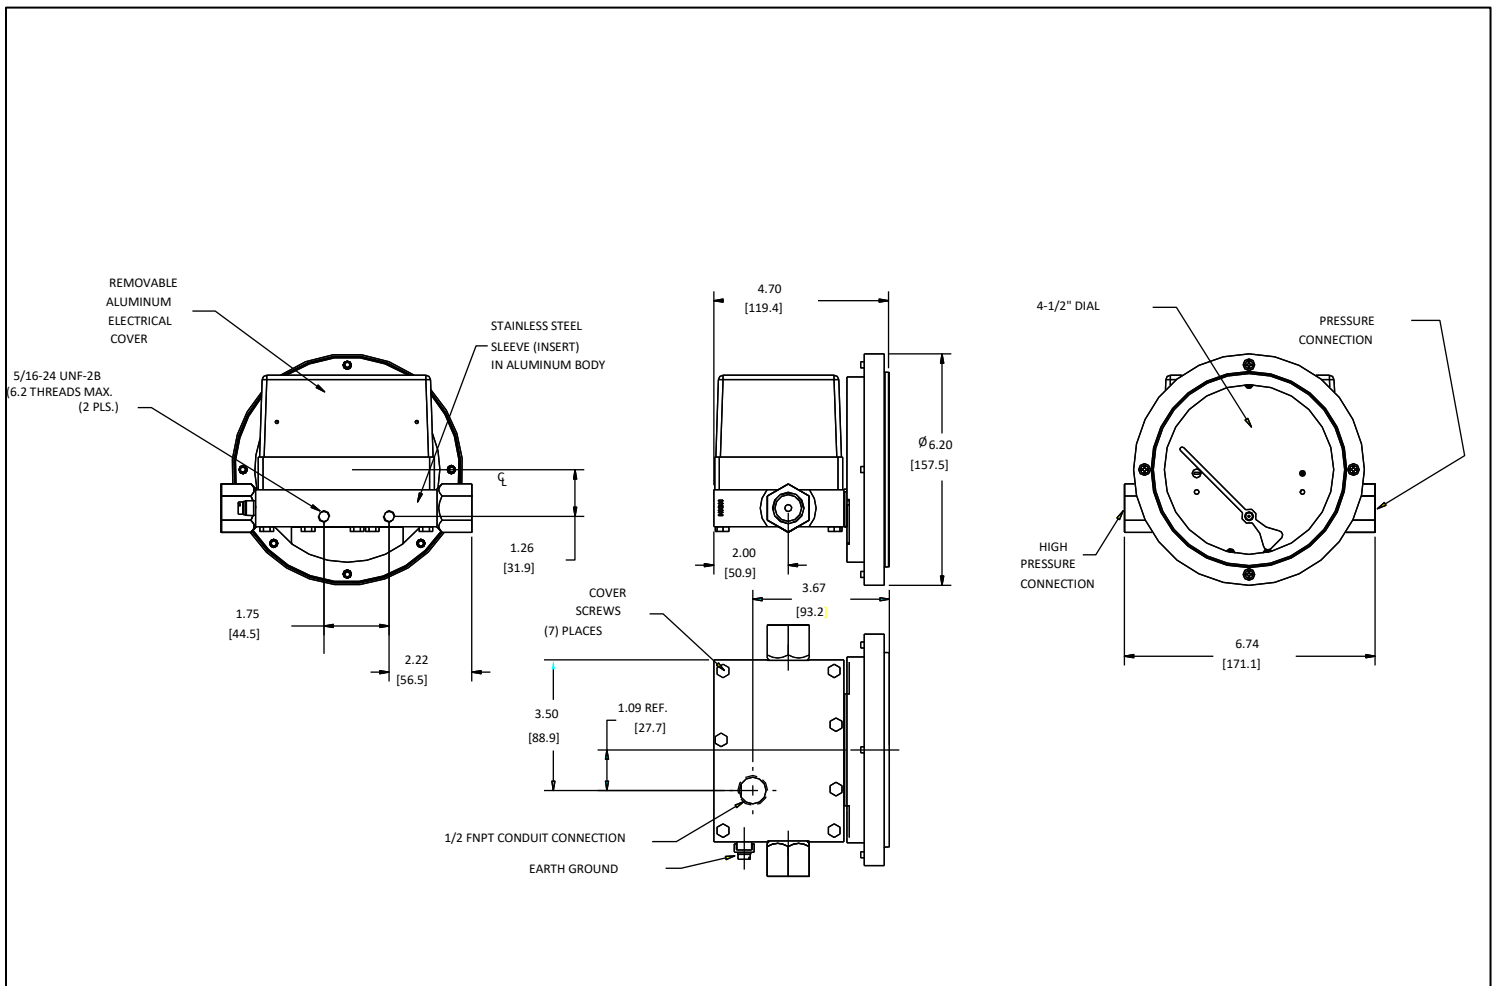

Figure 8
Mounting Holes: The instrument is provided with two(2) 5/16-24 mounting holes on the back of the body. They are spaced 1.75" and are tapped a minimum of 6.2 threads deep. A customer selected bolt must allow for 1 free thread after full engagement with the gauge body. See Figure 8.